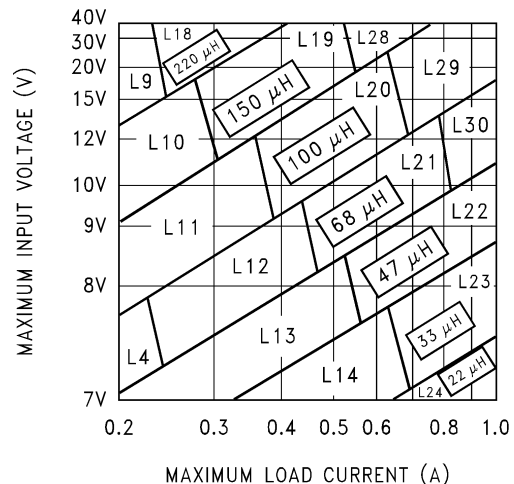
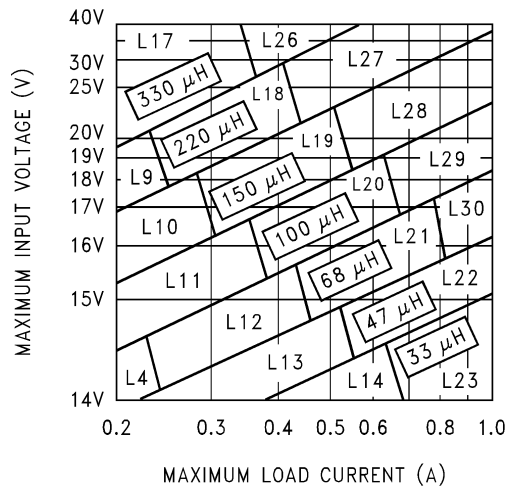

Figure 26. LM2598-5.0
Figure 27. LM2598-12
A. Select the correct inductor value selection guide from Figures Figure 25 , Figure 26 , or Figure 27 (Output voltages of 3.3V, 5V, or 12V respectively.) For all other voltages, see the Design Procedure for the adjustable version.	A. Use the inductor selection guide for the 5V version shown in Figure 26 .
B. From the inductor value selection guide, identify the inductance region intersected by the Maximum Input Voltage line and the Maximum Load Current line. Each region is identified by an inductance value and an inductor code (LXX).	B. From the inductor value selection guide shown in Figure 26 , the inductance region intersected by the 12V horizontal line and the 1A vertical line is 68 μ H, and the inductor code is L30.